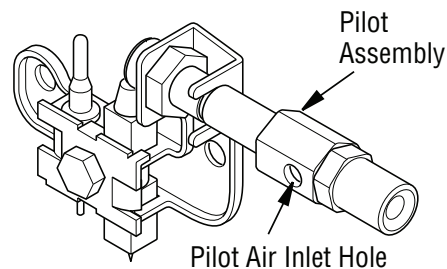

Figure 42 - Pilot Inlet Air Hole
2. Inspect burner, pilot and primary air inlet holes on injector holder for dust and dirt (see **Figure 42**).
- Clean pilot assembly also. Additional cleaning may be needed for proper pilot operation based on use/lack of use. A yellow tip on the pilot flame may indicate dust and dirt in the pilot assembly. There is a small pilot air inlet hole about from where the pilot flame comes out of pilot assembly (see **Figure 42**). With unit off, lightly blow air through air inlet hole. You may blow through a drinking straw if compressed air is not available.